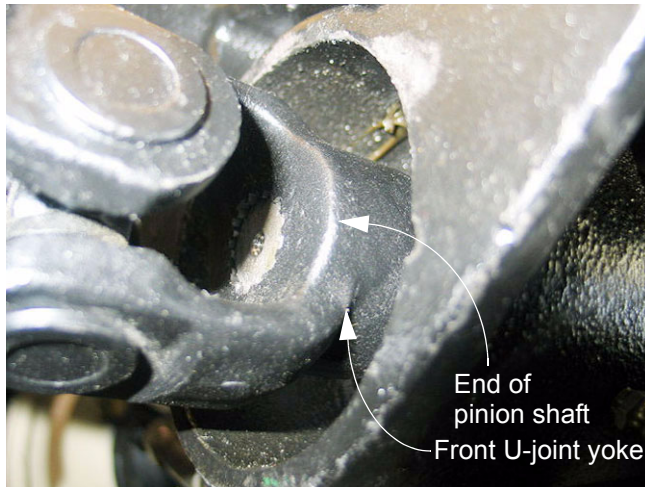

Figure 4.12
4.12. Connect the 4 W.D. driveshaft: See Figure 4.12.